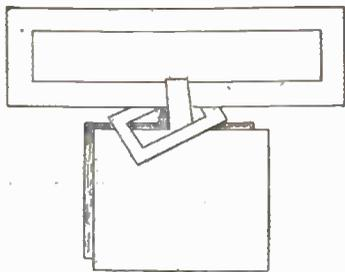

FIG 1
**I**N Fig. 1 we show a three-piece puzzle easily made from cartridge drawing paper or thin carboard. It consists of the pieces shown in the form of a horizontal slot, a hanging box, and a small square which becomes locked between the other two parts. The puzzle is to separate the three pieces without harm to the paper.
position as shown in Fig. 1.
position as shown in Fig. 1. friends will find the solution quite baffling.
**H**ERE we have a simple trick with paper rings which requires three strips of paper about 18in. long, 1in. wide and each joined at the end to make circles. But note the difference in the method of joining as shown in Fig. 1.